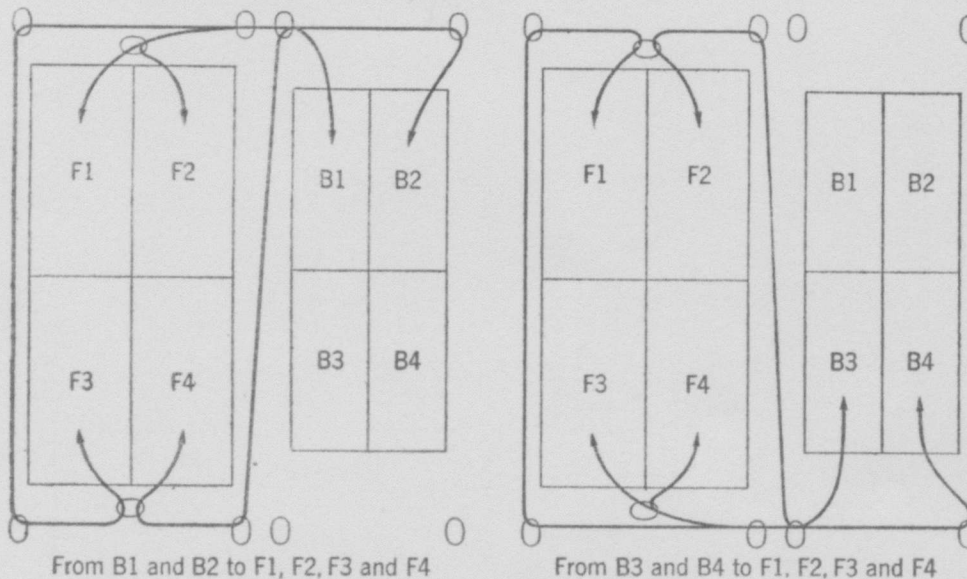

Fig. 3—Wiring Schematic of LA Type Cable Terminal.
3.02 In order to provide a uniform wiring arrangement and avoid congestion of jumpers it is desirable to place the jumpers in accordance with Fig. 3. The numbered sections F1, F2, etc., and B1, B2, etc., in Fig. 3 are formed by visually dividing the fuse and binding post chambers into four approximately equal quadrants.
3.03 Use duct wire for jumpers in LA type cable terminals. Pass the jumper through the distributing rings in the order shown in Fig. 3. Before cutting the jumper be sure to provide sufficient overall length to permit leaving about 2 inches slack. The proper amount of slack can usually be obtained by allowing sufficient length to reach the next binding post beyond the one on which the jumper is to be terminated both in the fuse chamber and the binding post chamber.